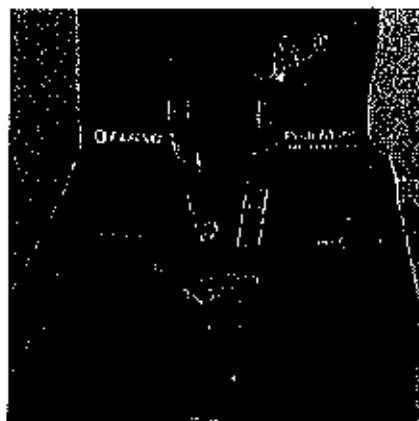

Figure 77
7. Verify that all of the straps are snug and fastened securely (see Figure 77).